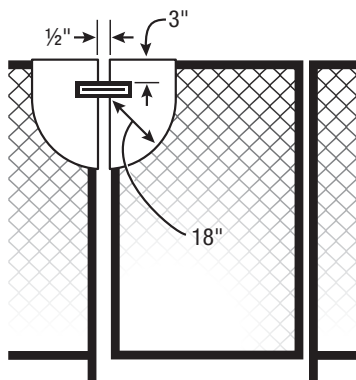

Figure 13
- (b) the gate and barrier should have no opening greater than ½ inch within 18 inches of the release mechanism (figure 13).